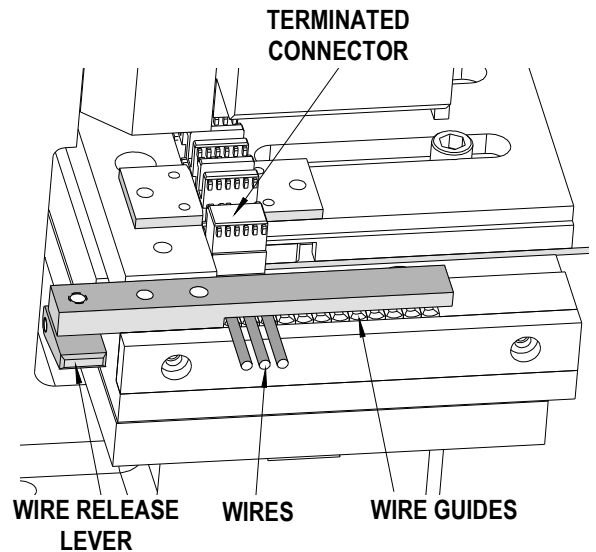

Figure 2-5
It is necessary to make an adjustment to the wire stop when changing from one wire size to another. Refer to Figure 2-5.
6. Remove the connector and wire or cable assembly from the terminator by pressing down on the wire release lever to the left of the wire guides and sliding the assembly out to the right. (See Figure 2-5.) Reference sheet 4 of Application Specification #ES-990033-0004 to determine if termination is correct.